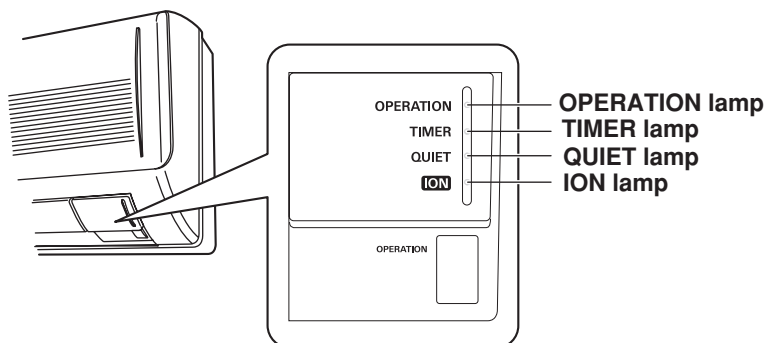

Fig. 59c
- This starts the fan producing uncooled forced air with the 4 indicator lamps (OPERATION lamp, TIMER lamp, QUIET lamp, and ION lamp) on the main unit blinking. (Fig. 59c)